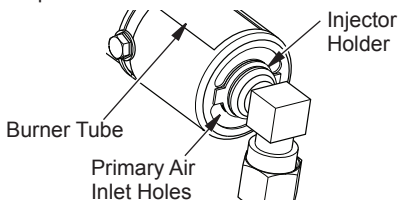

Figure 62 - Injector Holder On Outlet Burner Tube
2. Inspect burner, pilot and primary air inlet holes on injector holder for dust and dirt (see Figure 62).